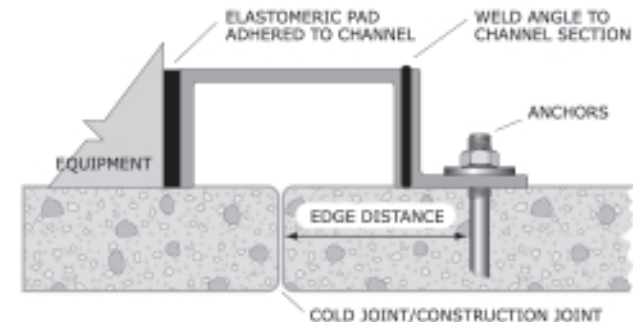
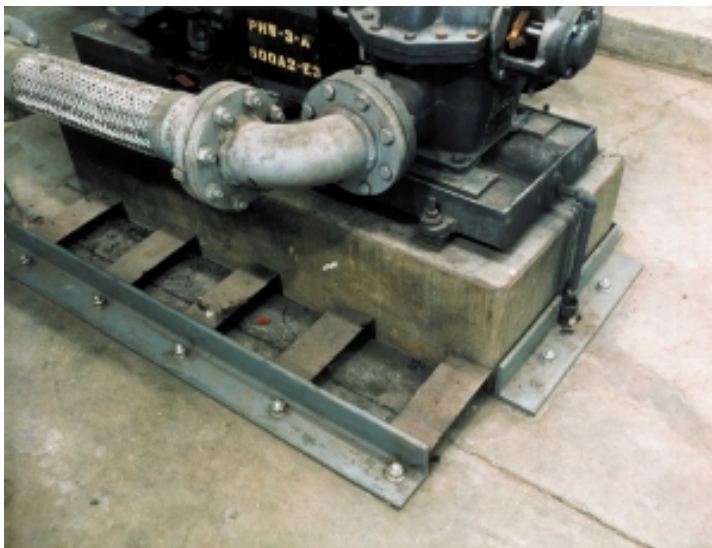

Figure 78: Alternate installation detail of bumpers installed near a concrete joint.
Figure 79: Equipment restrained with bumpers.
**If anchors are near a joint in the concrete, see detail in Figure 78.**
See Anchors (page 96). If the anchors are near a concrete joint, refer to the detail in Figure 78 (page 41).
See Anchors, page 96. Figure 78 shows equipment restrained with bumpers next to a cold joint. Notice in Figure 79 below that the application is near a concrete joint.